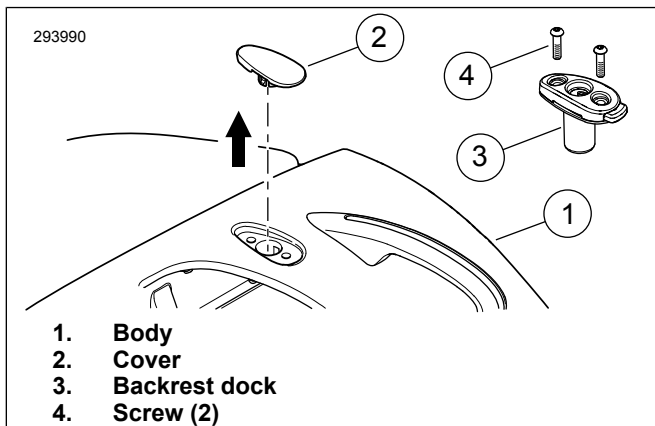

Figure 2. Trim Cover
1. See Figure 2. Remove trim covers (2) from body (1).
1. See Figure 2. Install backrest docks (3) to body (1).
2. Install two screws (4) for each dock. Tighten.